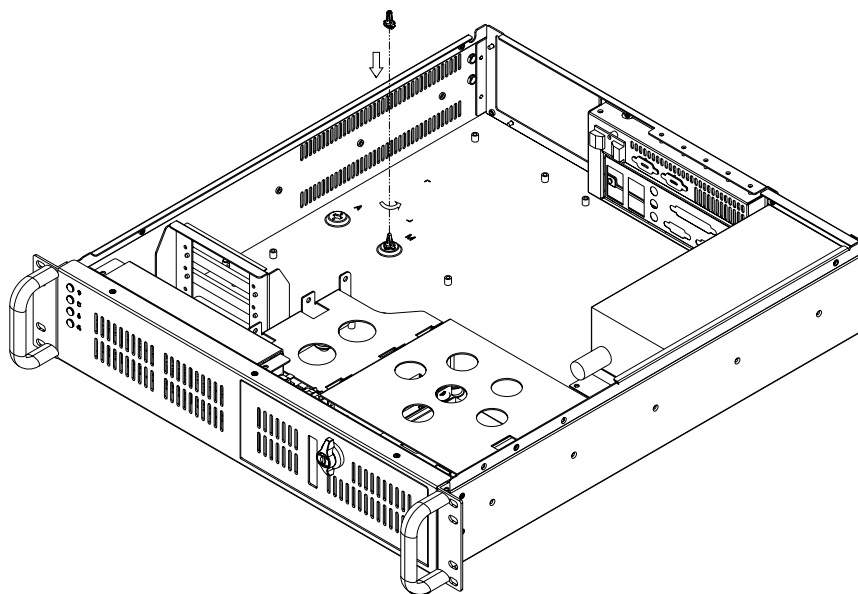

Figure 2.3 Fasten the plastic post
3. Users can find the plastic post in the accessory box. Insert the plastic post to the correct location and then rotate counterclockwise to fasten it onto the chassis (see Figure 2.3).